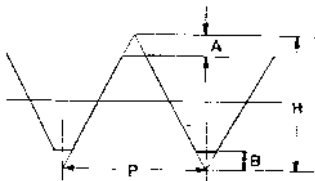

Fig.5.1.
1. Fig. 5.1 shows the basic profile of ISO metric screw thread. The dimensions A and B in terms of H are
2. The relationship between P and H in Fig. 5.1 is